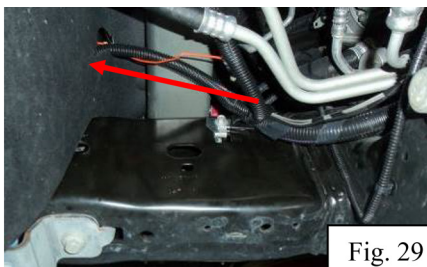

Fig. 29
28. Route the orange wire through the hole in the rubber air deflector towards the coolant pump (Fig. 29). Cut the power wire (white and green wire) approximately 3" from the pump connector (Fig. 30). Insert the two ends of the power wire from the coolant pump and the orange wire into the clear 3M Scotchlock 3-way splice connector supplied (Fig. 31). Note: It is not necessary to strip the wires, and the order of the wires inserted does not matter. Once the button is depressed, the connector is difficult to reuse. Be sure the wires are inserted completely. Using slip joint pliers (or similar tool) press the button down into the connector until the button locks. The connector is filled with EG-3 sealant. Just wipe off any excess with a rag. You may wrap the connection with electrical tape, although it is not necessary. Zip tie the wires and connector to the wire loom.